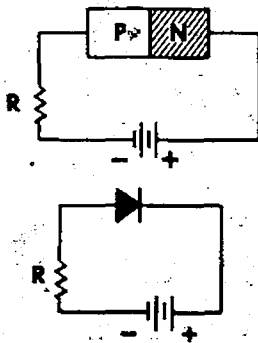

Figure 2-4 A reversed biased PN junction diode
7. (forward biased) A forward biased diode conducts and acts as a very low resistance, permitting current to flow through it freely. If the polarity of the applied voltage is reversed as shown in Figure 2-4, the diode is said to be reverse biased.